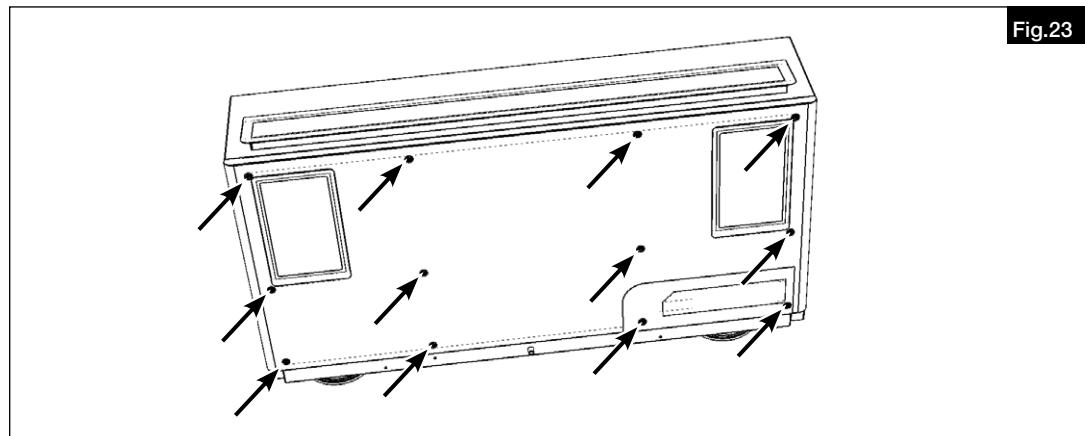

Fig.23
1. Loosen and remove screws (12 pcs) on the bottom of the unit (see Fig.23).